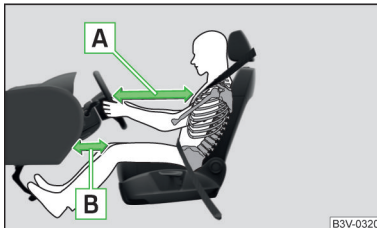

Fig. 23
- It is important for the driver and front passenger to maintain a minimum distance of 25 cm from the steering wheel or the control panel » Fig. 23 - **A**. If you do not observe this distance, the airbag cannot protect you - risk to life! The front seats and the head restraints must always be correctly adjusted to match the body size of the occupant.
- Adjust the driver's seat in a forward/back direction so that there is a gap of at least 6 cm between the legs and the dashboard in the vicinity of the knee airbag » Fig. 23 - **B**. If it is not possible to meet this requirement due to your body size, visit a specialist garage.